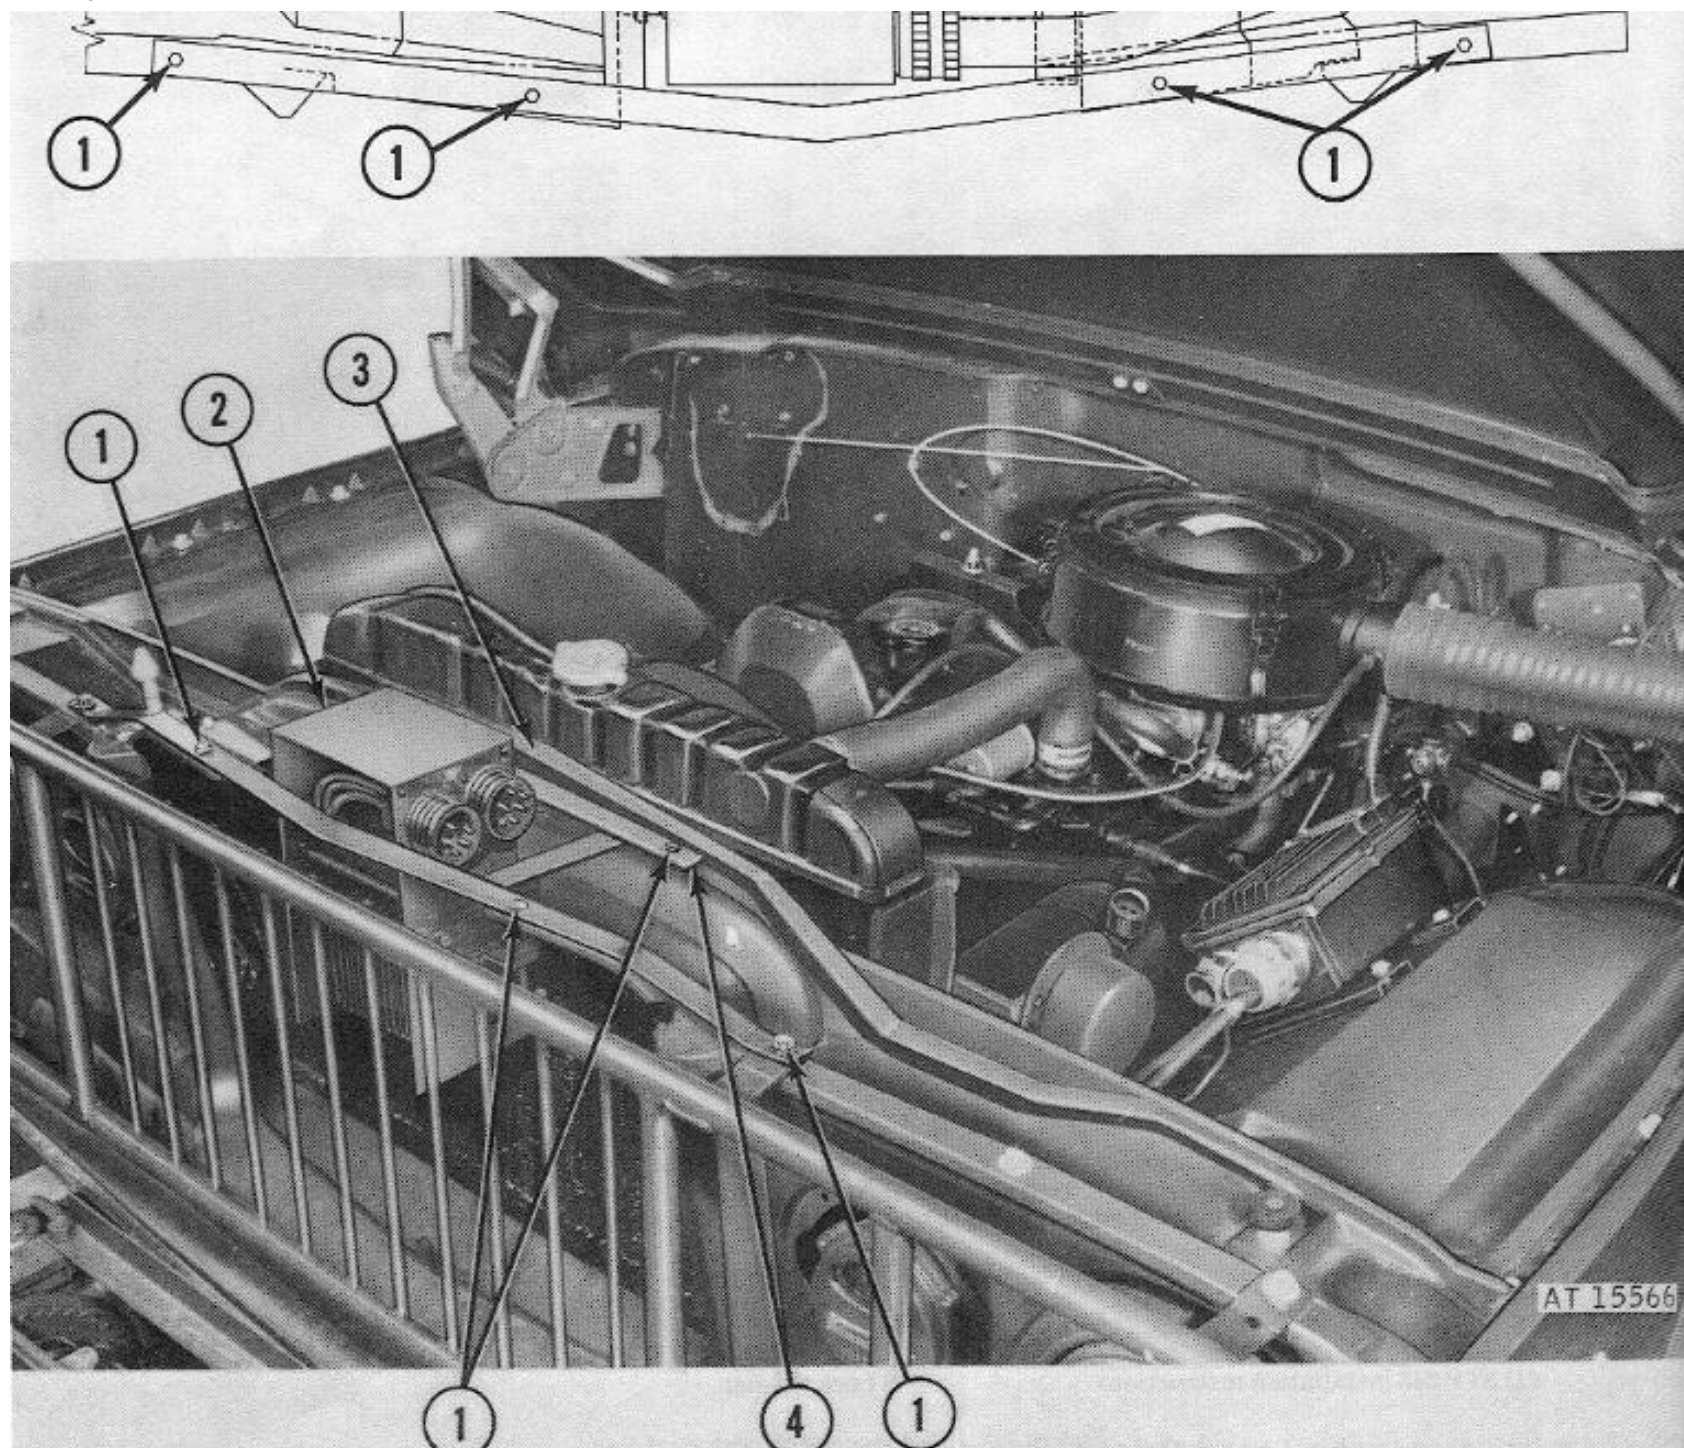
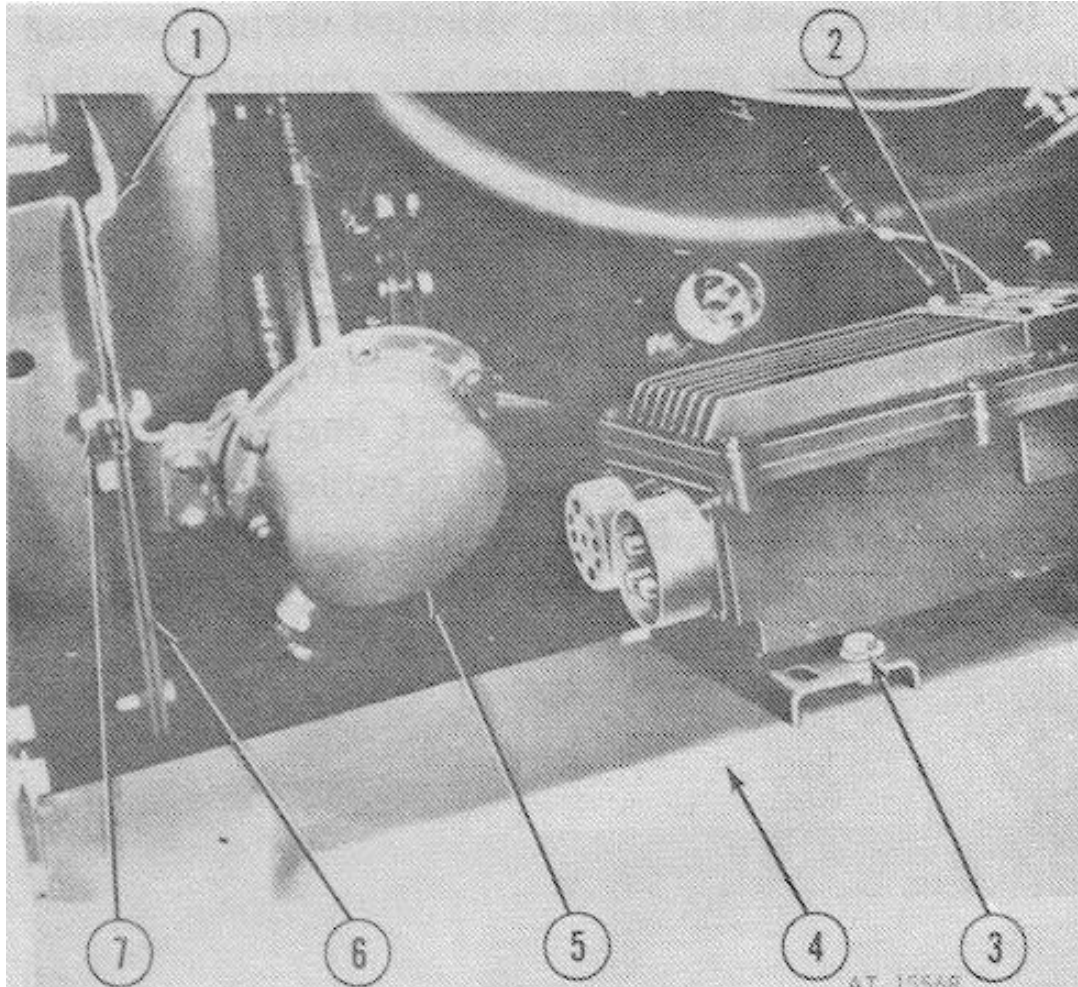
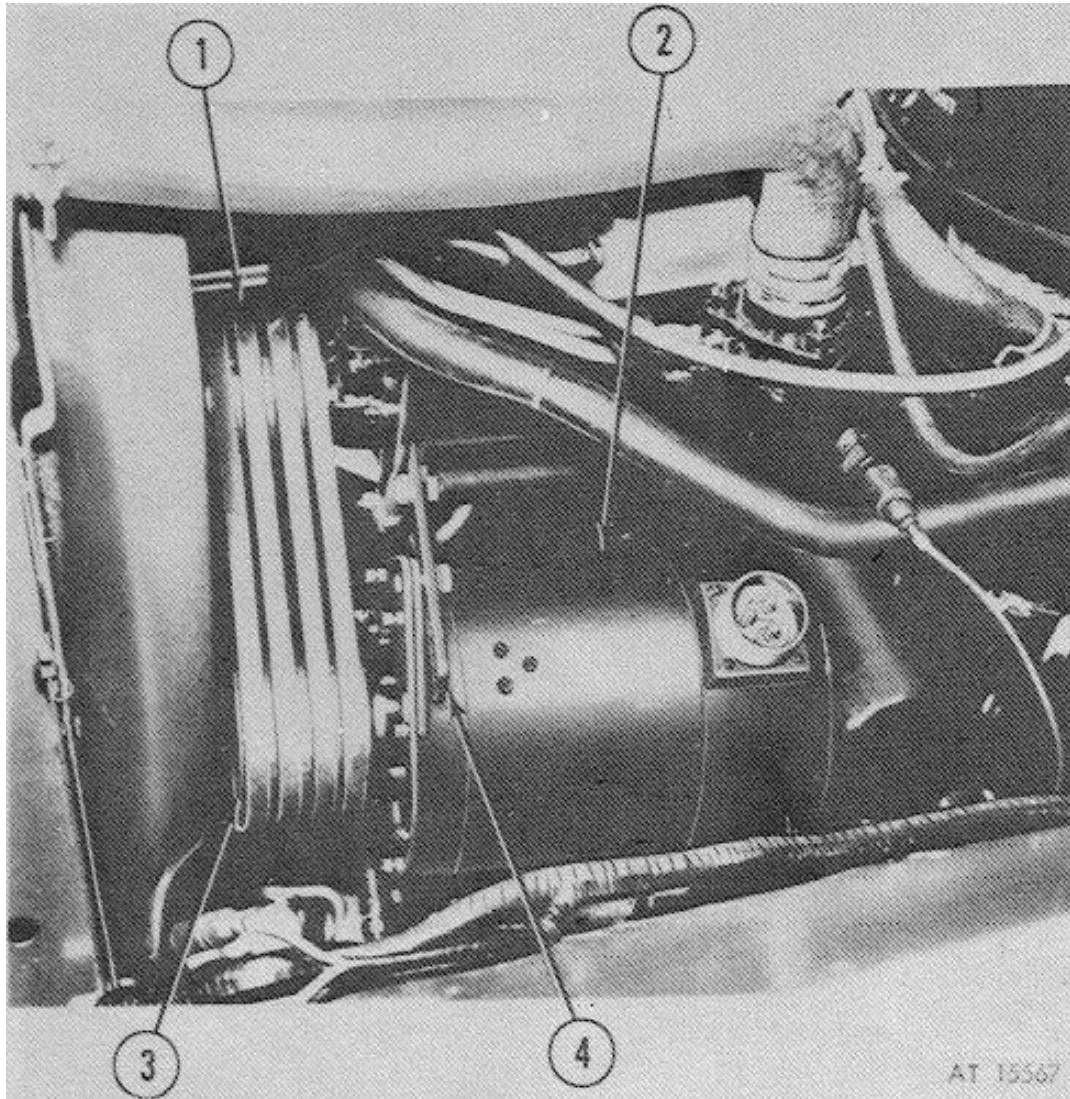

Figure 3-8. Rectifier mounting.
Figure 3-10. Regulator.
Figure 3-11. 100-ampere alternator.
- (1) STP 243 installation instructions
- b. Rectifier. The rectifier is a selenium type and changes alternating current to direct current. The rectifier is secured in a bracket assembly that is mounted in front of the engine radiator and secured to the upper radiator support and baffle. Refer to figure 3-8.
b. Rectifier. (Fig 3-8)
(1) Remove four bolts, nuts and lock washers securing the rectifier mounting bracket to the radiator top baffle.
(2) Remove two bolts, nuts and lock washers securing the rectifier mounting bracket to the radiator baffle and support. Remove the rectifier and mounting bracket assembly. Reinstall the two bolts, nuts and lock washers securing the radiator baffle to the radiator support. Tape the light wiring harness to the center section of the radiator baffle.
c. Regulator, Remove the four bolts, nuts and lock washers securing the regulator to the left front fender apron. Remove regulator from vehicle. Refer to figure 3-10.
d. 100-Ampere Alternator. (Fig 3-11)
(1) Loosen alternator mounting bolts at mounting bracket of engine and remove bolt, washer and lock washer from alternator adjusting arm bracket.
(2) Remove the four fan belts from the engine.
(3) Remove the two mounting bolts, nuts and lock washers and remove alternator.
a. 100-Ampere Alternator. (Fig 3-11)
- (1) Place the four belt drive pulley on the alternator drive shaft with woodruff key and secure in position with nut and lock washer.
- (2) Position alternator on engine alternator mounting bracket and secure with two bolts, nuts and lock washers.
- (3) Position four new matched fan belts on engine and alternator pulleys. Install bolt, washer and lock washer in alternator adjusting bracket.
- (4) Use belt tension gage and adjust belt tension from 60-70 lbs. If belt tension gage is not available, belt tension of 1/2-inch deflection may be obtained by applying a light thumb pressure midway between alternator and water pump pulley. Tighten adjusting bracket bolt.
- b. Regulator. Position regulator on left front fender (fig 3-10) and secure to fender with four 4-20 x 3/8-inch bolts, nuts, plain washers and lock washers.
- c. Rectifier. (Fig 3-8)
- (1) Place rectifier in mounting bracket. Secure rectifier to bracket by tightening the right mounting nut.
- (2) Remove the rectifier left mounting nut, washer and baffle bracket assembly.
- (3) Remove two bolts, nuts and washers securing baffle plate to radiator support (one on each outer end of baffle plate).
- (4) Place rectifier in baffle opening and secure mounting bracket to radiator baffle, position brush guard and install cap screws.